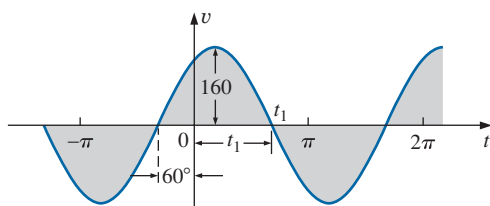

FIG. 13.95
- *37. The sinusoidal voltage $v = 160 \sin(2\pi 1000t + 60^\circ)$ is plotted in Fig. 13.95. Determine the time t_1 when the waveform crosses the axis.
39. For the waveform of Fig. 13.95, find the time when the waveform has its peak value.